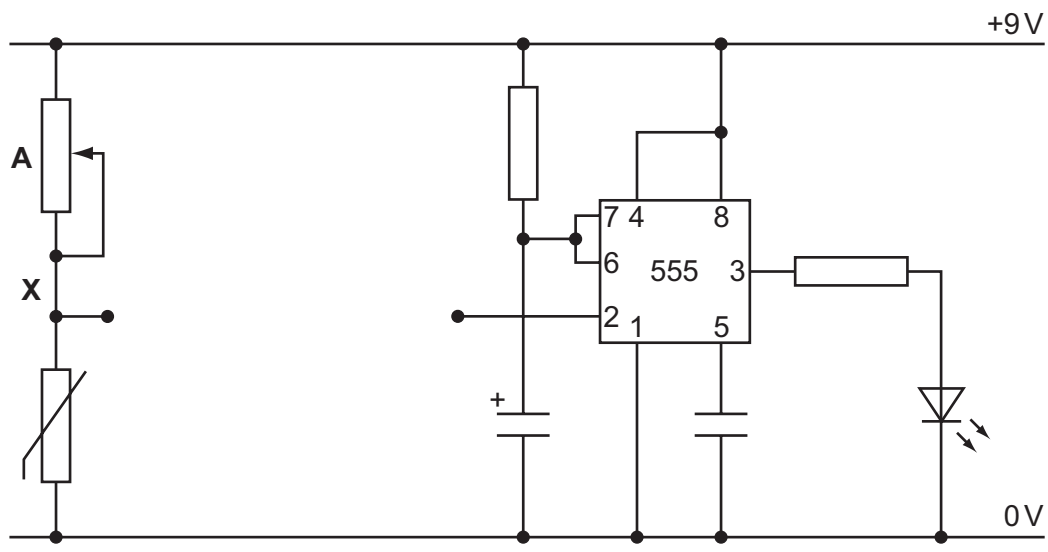

Fig. 19
- (b) A warning device is required to indicate when the temperature falls below a set level. The circuit shown in Fig. 19 is based on a 555 timer IC. When it has triggered, the warning LED will remain lit until the 555 timer resets.
Complete the circuit in Fig. 19 to show the transistor switch connected. [3]